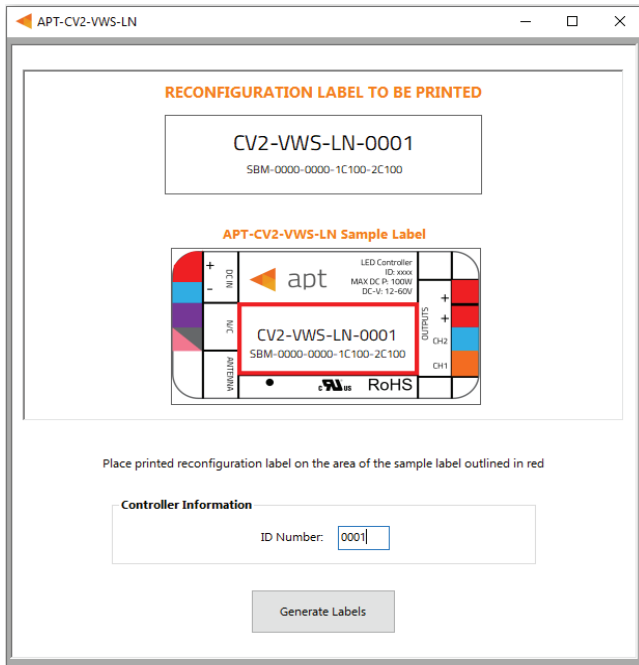

Figure 13: Label Generation window
- 1 Select **File > Generate Label** or press **Ctrl +L** to open the Label Generation window (shown in Figure 13).
- 2 Input the 4-digit **ID Number** written on the original label (shown in Figure 13). The ID Number indicates the production build of the APT Controller.